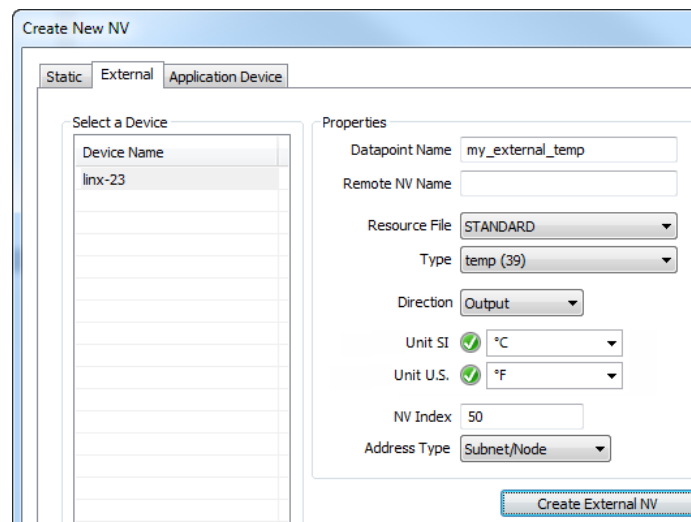

Figure 95: Create a new external NV.
3. Click on the tab **External** as shown in Figure 95.